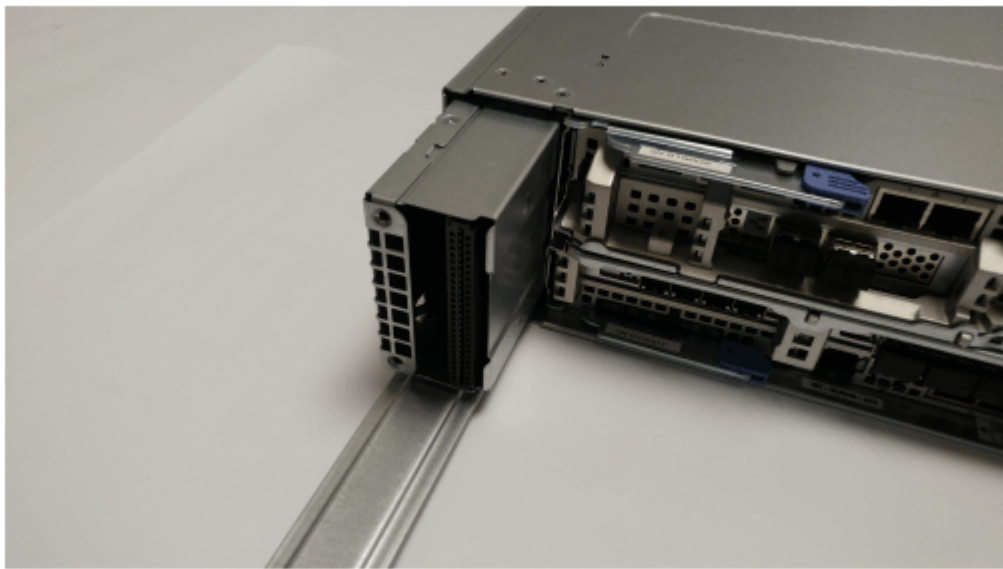

Figure 106. Removing a power interposer
3. Slide the power interposer out until it is clear of the enclosure rear, as shown in Figure 106 on page 145.